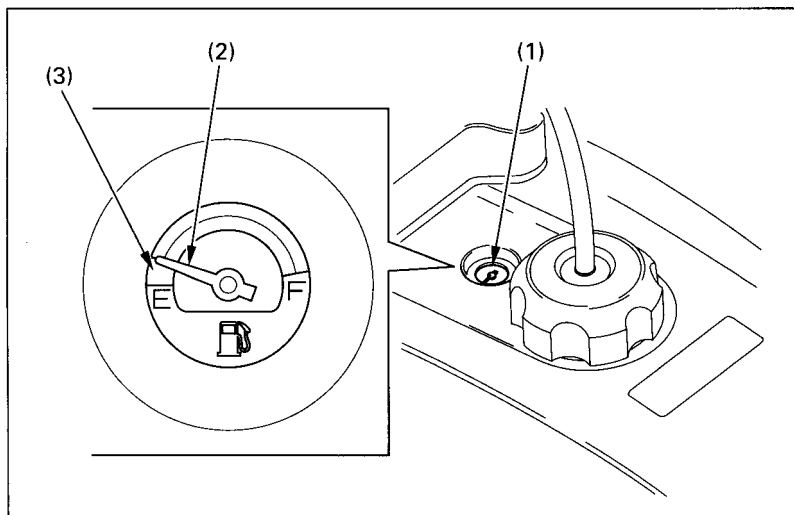

Fig. 2-19 (1) Fuel gauge
The fuel gauge (Fig. 2-19) (1) shows the approximate fuel supply available. At F (Full), the fuel tank capacity including reserve is: